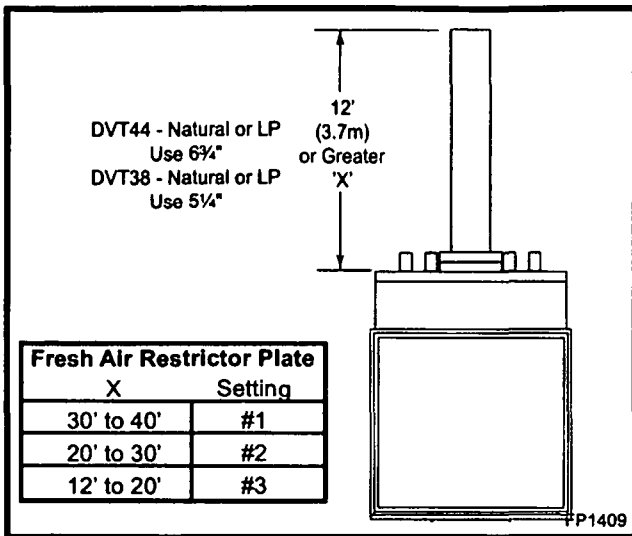
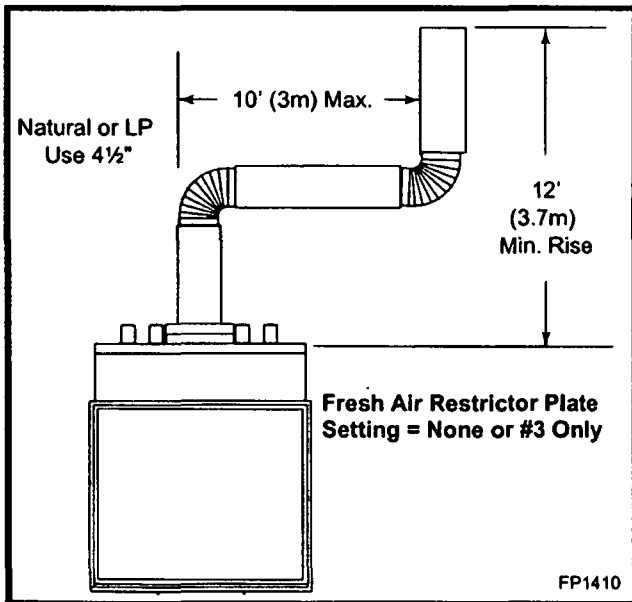
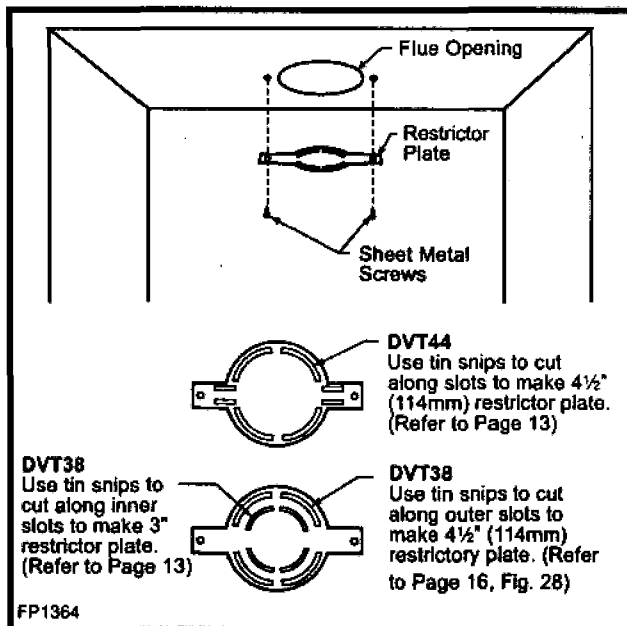

Fig. 27 Restrictor plate use in straight up installation.
Fig. 28 Restrictor plate use with horizontal offset.
Fig. 36 Restrictor plate location.
For vertically venting either propane or natural gas units, with vertical vent heights of 12' (3.7m) or greater, (measured from the top of the flue collar) the restrictor plate as supplied with this unit should be used. (Fig. 27) Also, the fresh air restrictor plate could be adjusted according to your vent height. (Fig. 27) Refer to Pages 20 & 21, Figures 36 & 38 for restrictor plate installation and fresh air restrictor plate adjustment.
For vertical venting configurations that include a minimum vertical rise of 12' (3.7m) and a maximum horizontal offset of 10' (3m) the 4½" restrictor plate supplied with this unit should be used. The fresh air restrictor plate could be adjusted to the setting #3 (DVT44 Only). (Fig. 28) Refer to Pages 20 & 21, Figures 36 & 38 for restrictor plate installation and fresh air restrictor plate adjustment.
Using the two (2) screws provided along with the restrictor plate shipped with the logset, fasten the restrictor plate to the firebox top through the front of the unit. (Fig. 36)